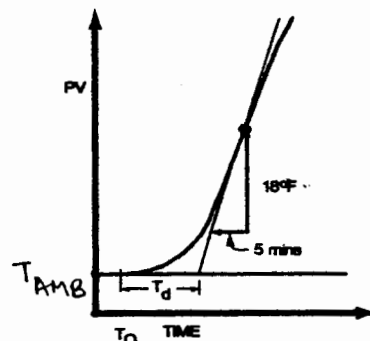

Figure 8. System Time Delay
3. Draw a line from the point of maximum slope back to the ambient temperature axis to obtain the lumped system time delay (T_d) (see Figure 8). The time delay may also be obtained by the equation:
Example: The chart recording in Figure 8 was obtained by applying full power to an oven. The chart scales are 10°F/cm, and 5 min/cm. The controller range is 100 to 600°F, or a span of 500°F.